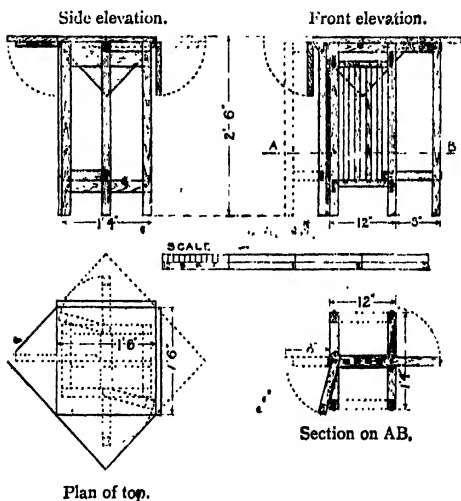

FIG. 120.—DROP-LEAF TABLE.
*Drawing.*—Prepare working drawings of a Table similar in construction to that illustrated in Fig. 120. Make freehand sketches of the joints.